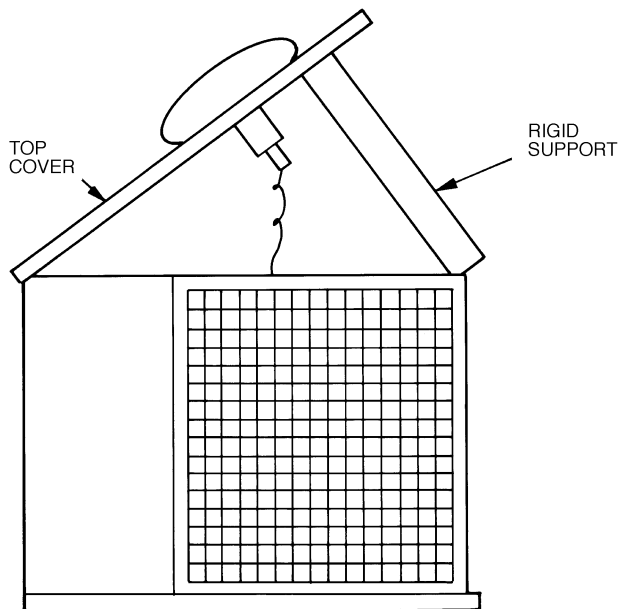

Fig. 23 — Pivot and Support Top Cover
2. Remove screws holding rear corner posts and top cover in place. Pivot top cover up 12 to 18 in. and support with a rigid support. See Fig. 23.